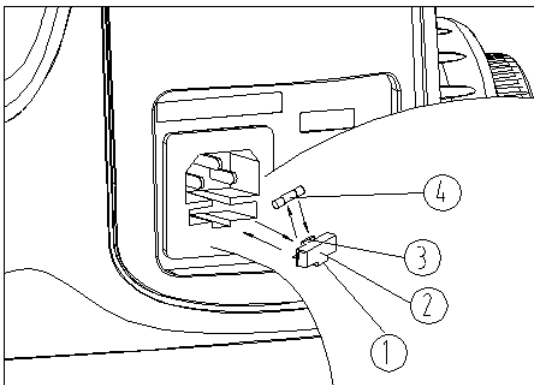

Fig. 18
Replacing the Fuse – (Fig. 18)
Pull out the power cord. Unscrew the fuse group ① from the fuse base ② with a “–” type screwdriver. Install a new fuse and screw the fuse group back into the fuse base (see Fig. 18).